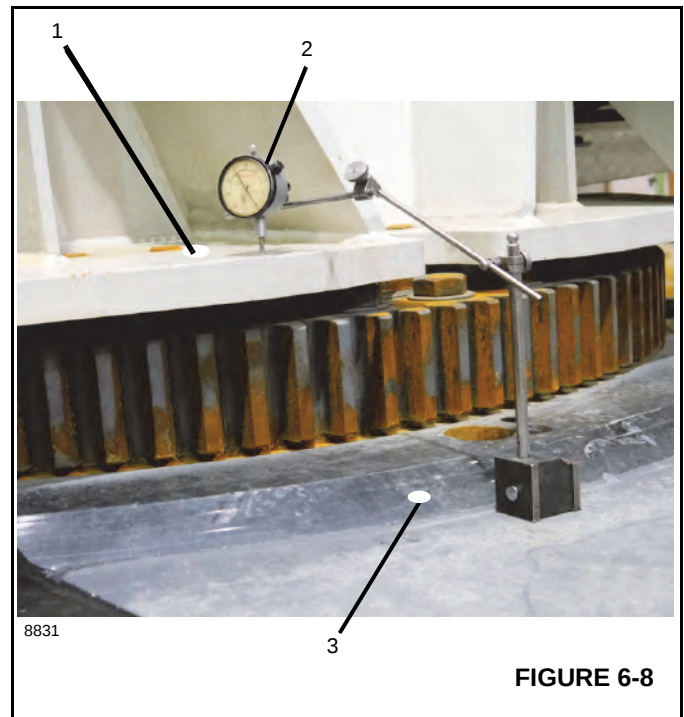

FIGURE 6-8
2. Put a dial indicator (2, Figure 6-8) opposite the boom on the T-box frame (3).
3. Place the dial on the top of the turret bearing plate (1, Figure 6-8).